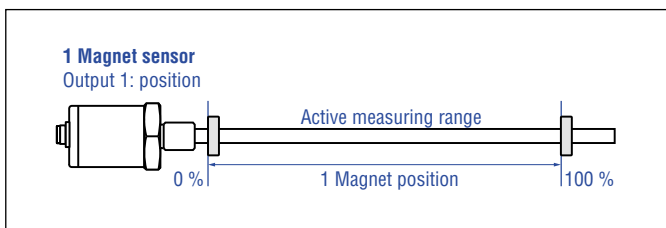

Fig. 29: Standard factory setting
1. Connect the programmer (Fig. 29) and turn on the supply voltage.